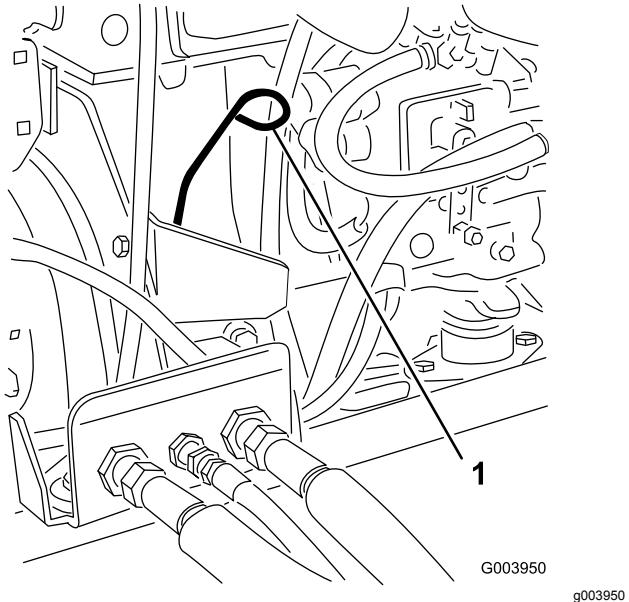

Figure 44
3. Remove the dipstick, wipe it clean, and install it (Figure 44).